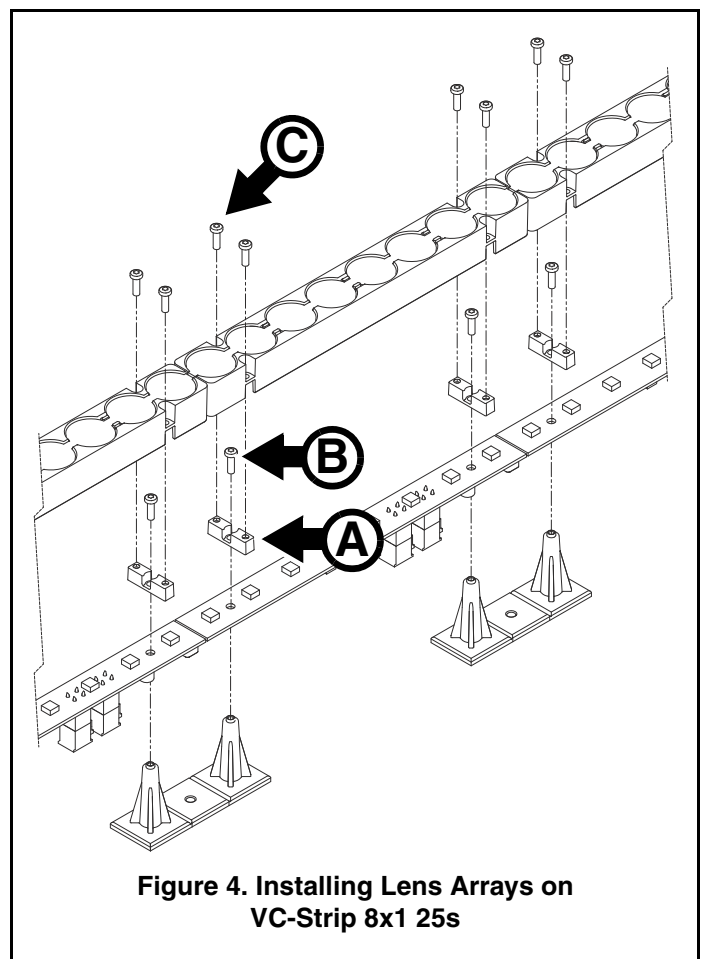

Figure 4. Installing Lens Arrays on VC-Strip 8x1 25s
3. See **A** in Figure 4. Mounting ribs are designed so that they can be cut into sections and used to mount Lens Arrays on VC-Strips.
6. See Figure 4. Fasten mounting rib sections to each VC-Strip and at the same time fasten the Mounting Frame by passing screws **B** (supplied with Mounting Frames) through the mounting rib, through the VC-Strip and into the Mounting Frame.